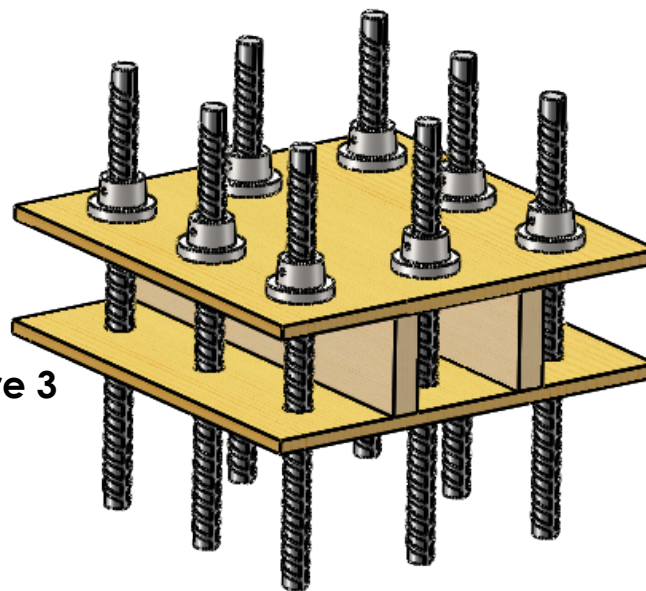

Figure 3
5. Dowel bars can be secured with a clamping mechanism. See Figure 3.